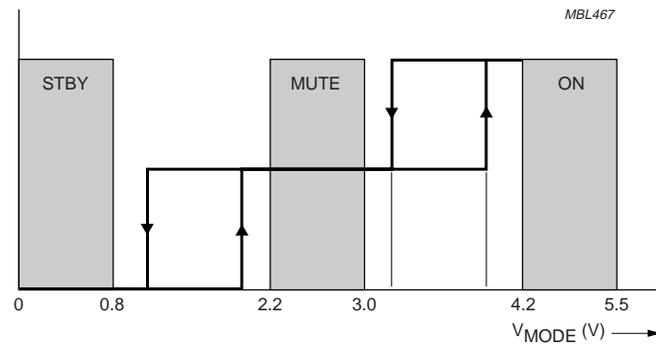

Fig.7 Behaviour of mode selection pin MODE.
3. The transition regions between standby, mute and operating mode contain hysteresis (see Fig.7).